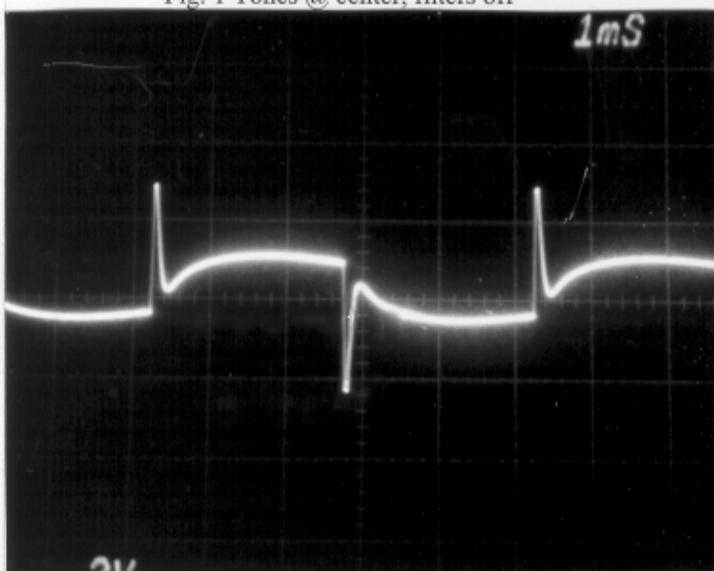

Fig. 3 Contour on 10
5. Turn the CONTOUR to 10 and compare the output to Figure 3 on the waveforms page. Turn the CONTOUR back to zero